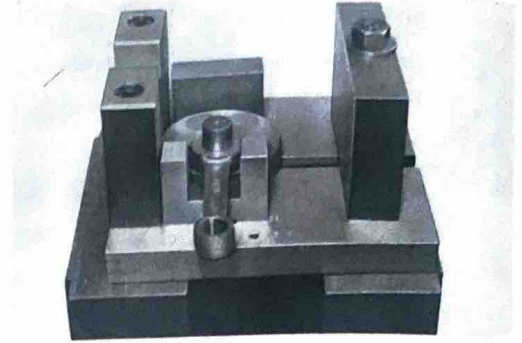

Fig. 4-17-13
- 2) Press the crank pin into one crank wheel, and position the crank wheel in Tool No. 1. Then install the connecting rod on the shaft. (Fig. 4-17-13)